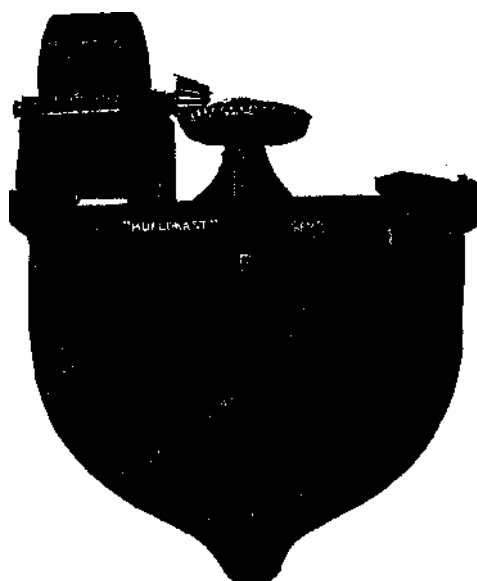

FIG. 70. -Kettle for Alkali Fusion.
15. What metal is used in the construction of kettles for alkali fusions? (Fig. 70.)